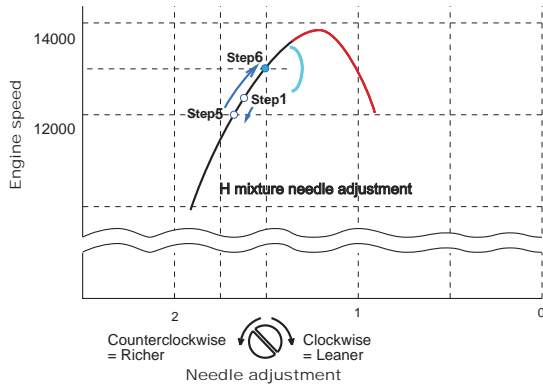

Fig.2: WOT setting
C. Wide Open Throttle (WOT) setting Fig.2 & 4
Step 5: Before adjustment, WOT engine speed should be less than or equal to lower value of speed range in column "WOT setting: Fig.2 Steps 5 & 6" on the **SERVICE DATA.** If engine speed is higher, lower the speed turning H mixture needle counterclockwise.
Step 6: Turn H mixture needle clockwise in 1/8 turn increments with the engine at idle. After each adjustment, accelerate to WOT, and check engine speed. Adjust H mixture needle to reach WOT engine speed within the range listed in column "WOT setting: Fig.2 Steps 5 & 6".